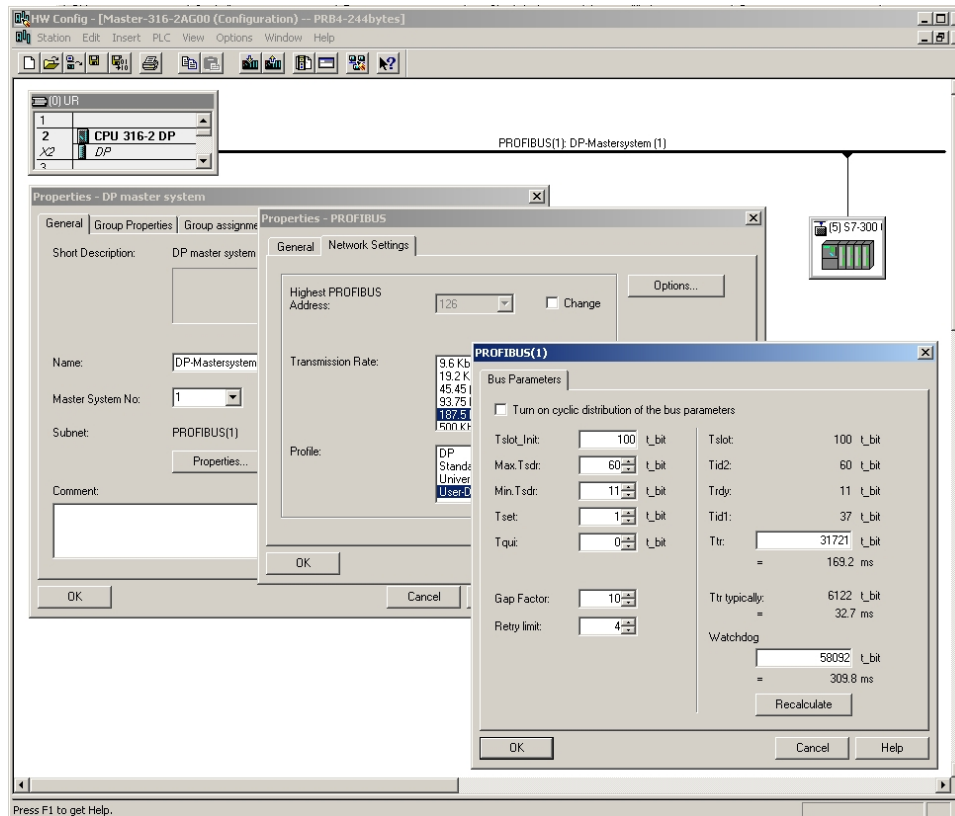

Fig. 14: Configuring the network parameters in Step 7's Hardware Configuration
- The PRB must be installed horizontally on a vertical wall as shown in Fig. 14. All other installation positions result in derating to the permissible ambient temperature. See Chapter 8 „Technical Specifications“.